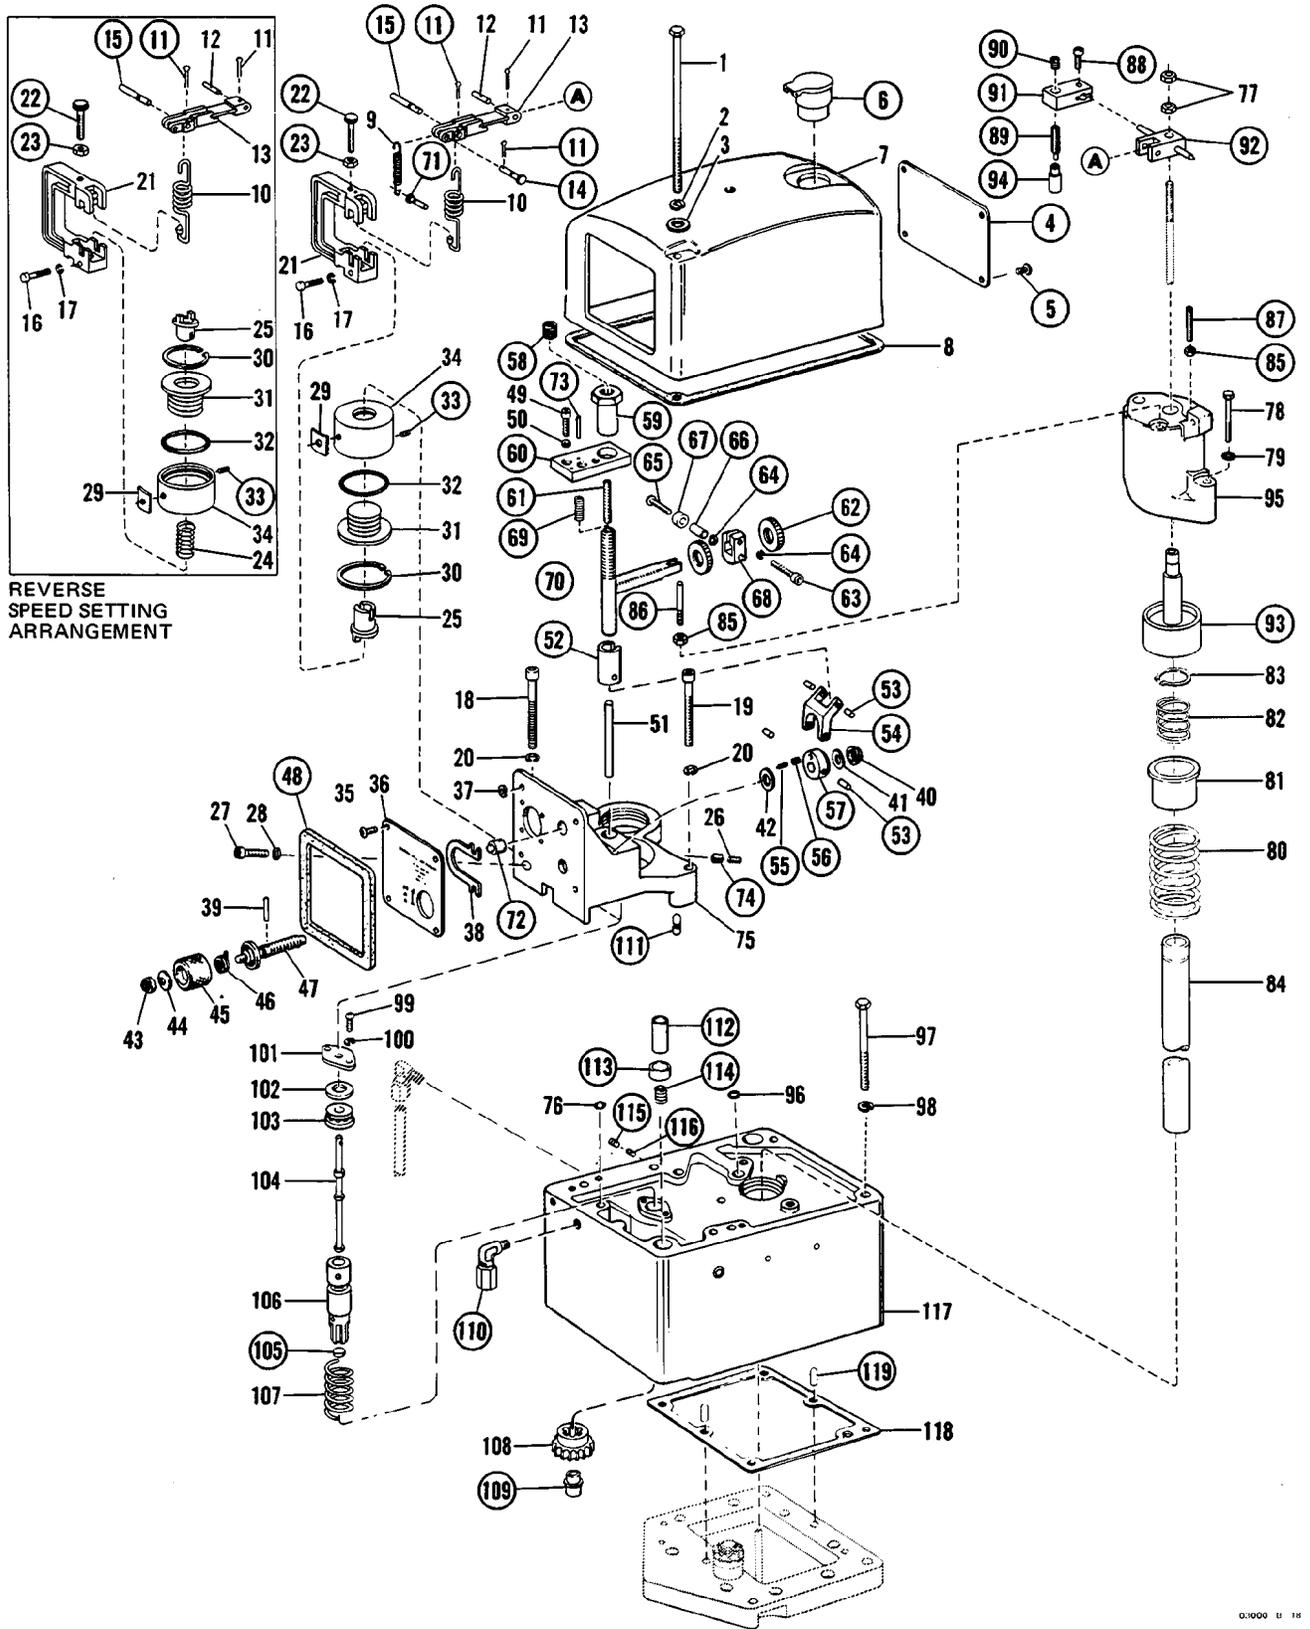

Figure 6-1. Exploded View of Column
1. Install column (117, Figure 6-1) on top of the case using a new gasket (118) and secure with screws (97) and washers (98).
Speed Setting Cylinder (Figure 6-1)—
Pneumatic Receiver (Figure 6-1)—
Circled reference numbers on the exploded view illustrations indicate items which need not necessarily be disassembled to effect repair or overhaul unless replacement of the part or parts is required. Figure 6-1 illustrates and locates parts for the column (speed setting mechanism), Figure 6-2 the case (output shaft, compensation linkage, speeder spring, etc.), and Figure 6-3 the controlet (speed sensing, compensation mechanism and base). A separate parts list is provided for use with each figure.
Parts List for Figure 6-1
Parts List for Figure 6-1 (continued)